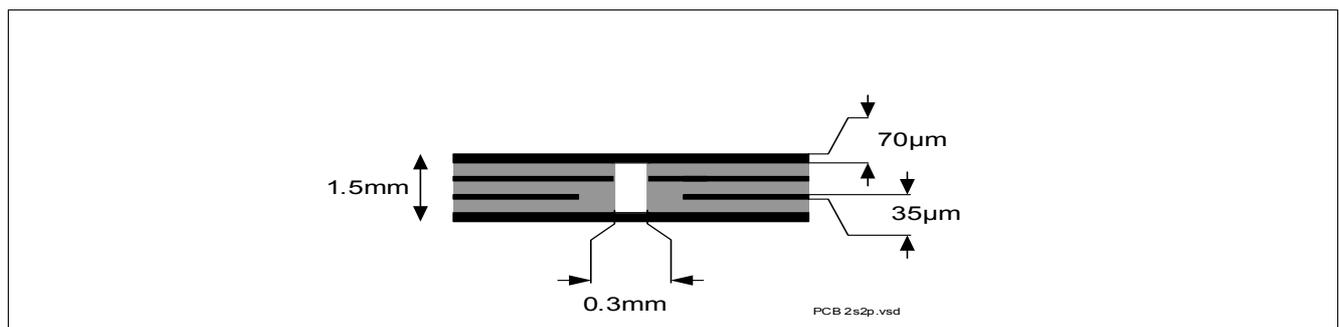

Figure 4 2s2p PCB Cross Section
- 2) Specified R_{thja} value is according to JEDEC JESD51-2,-5,-7 at natural convection on FR4 2s2p board; The product (chip + package) was simulated on a 76.4 x 114.3 x 1.5 mm board with 2 inner copper layers (2 x 70 μm Cu, 2 x 35 μm Cu). Where applicable, a thermal via array under the exposed pad contacts the first inner copper layer. Please refer to Figure 4.